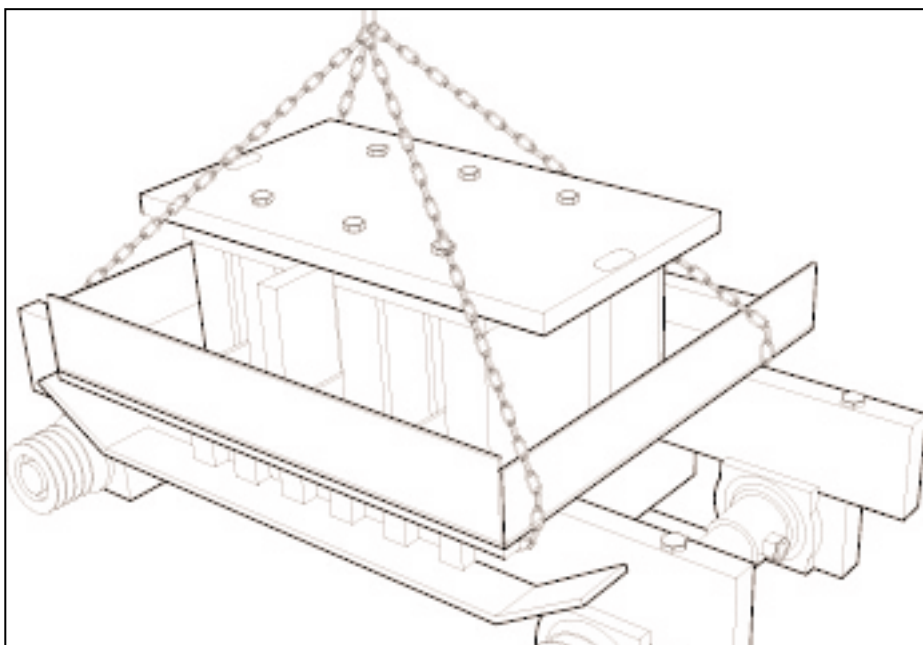

Figure 5.8 MOLD IS CHAINED, READY TO BE TAKEN OUT OF MACHINE.
5.3.28 Chain mold as shown in figure 5.8.